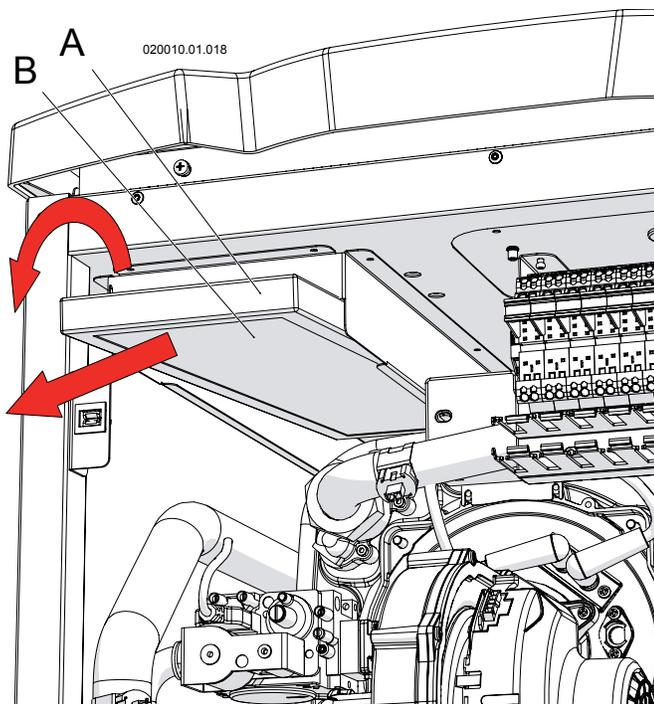

Figure 17-9 Remove the air filter "B"
2. pull down with a rotation the air filter "B" as per Figure 17-9;